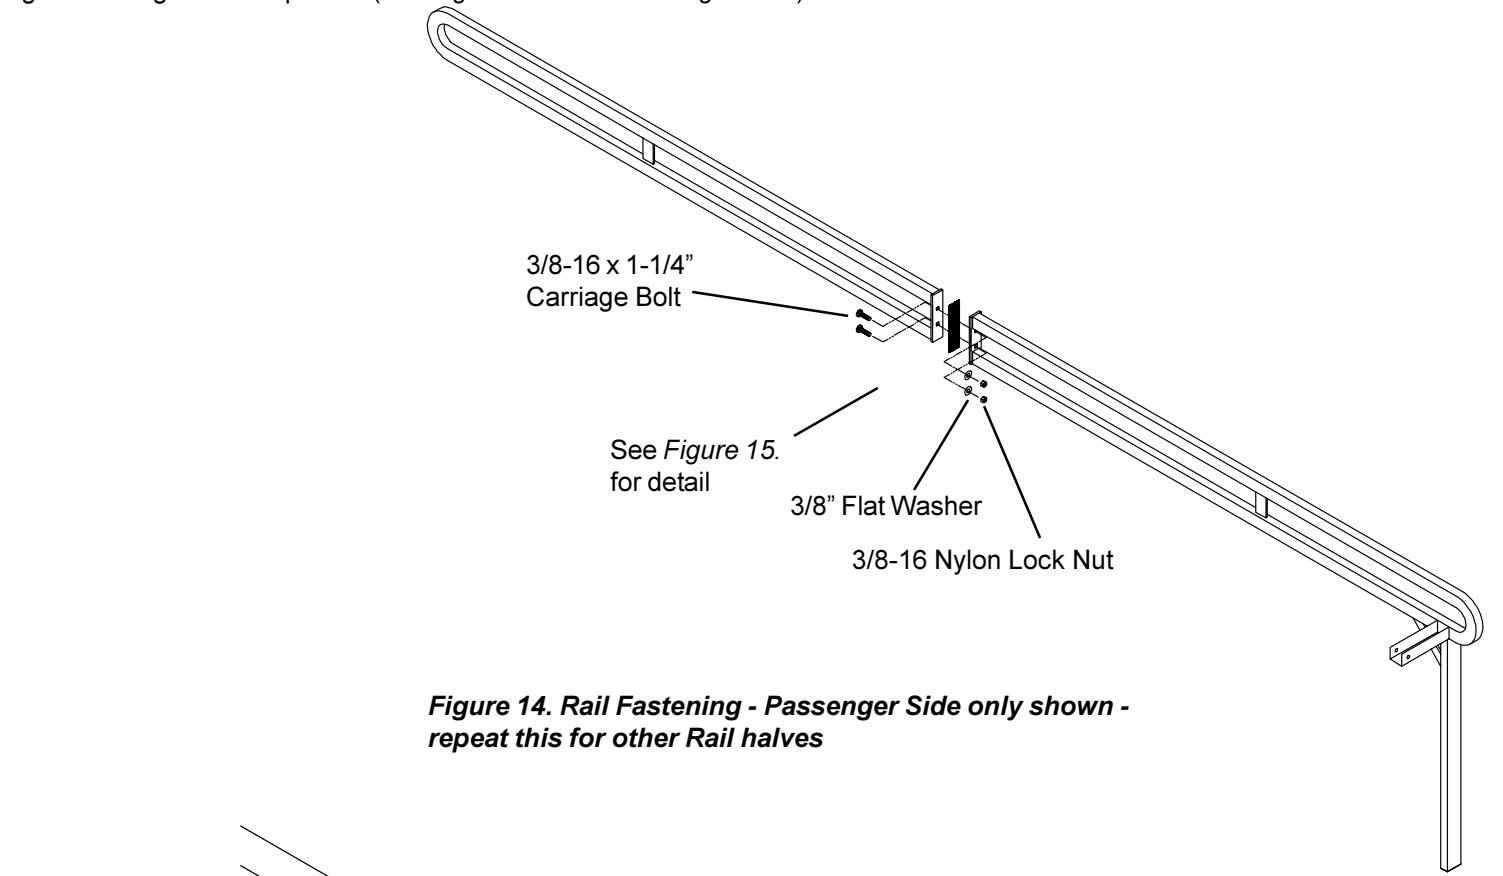
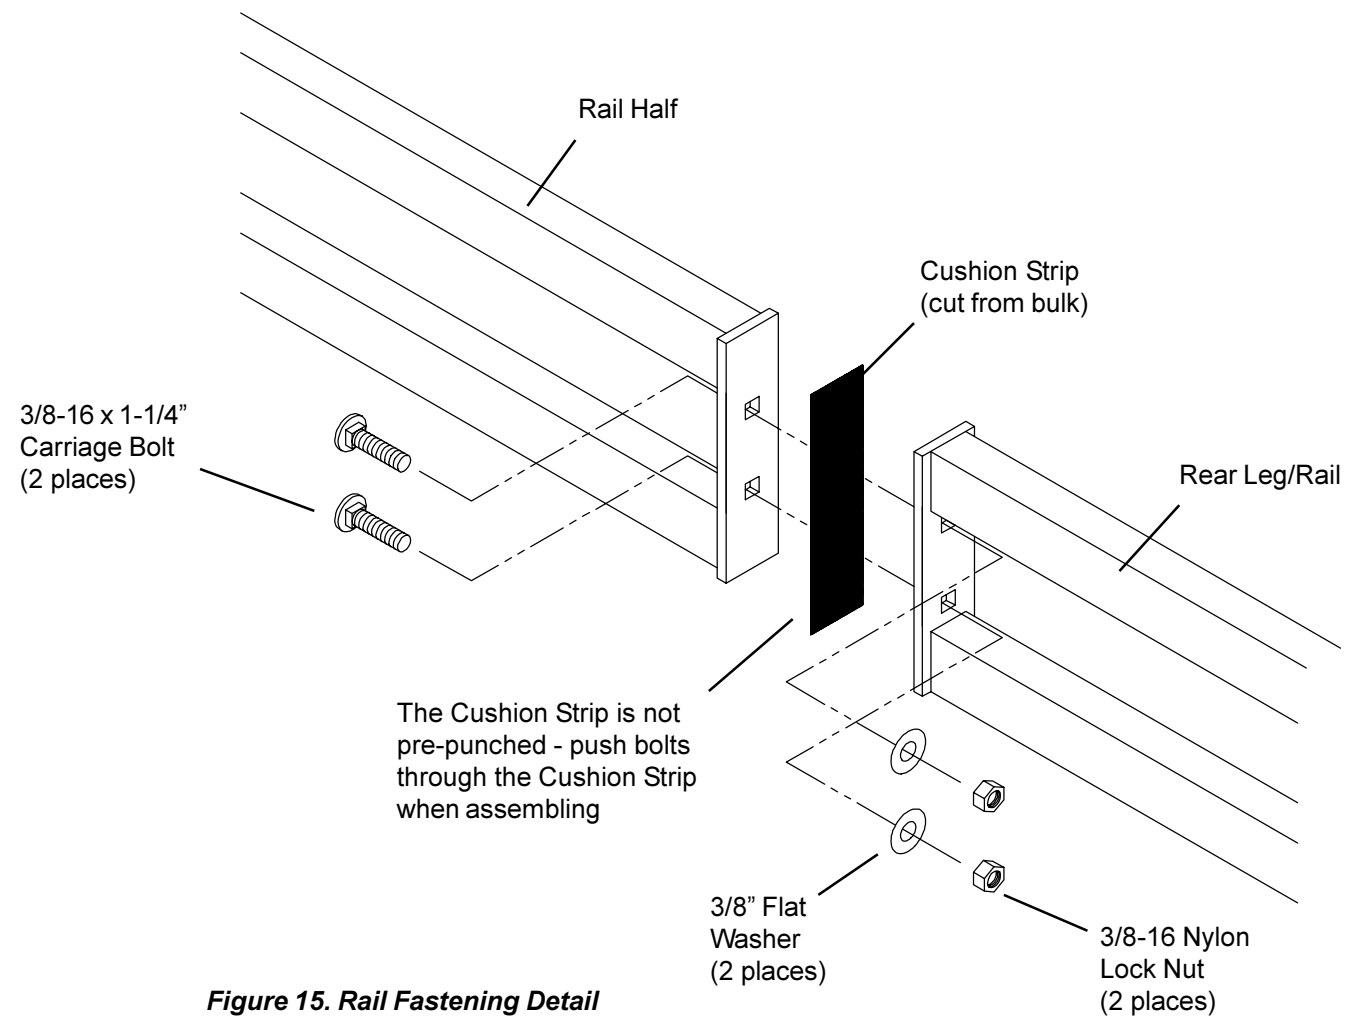

Figure 14. Rail Fastening - Passenger Side only shown - repeat this for other Rail halves
Figure 15. Rail Fastening Detail
6. Rail Fastening - Bolt the front Rail and Rear Leg/Rail Weldment halves together using two bolts per rail (see Figure 14. and detail Figure 15.).